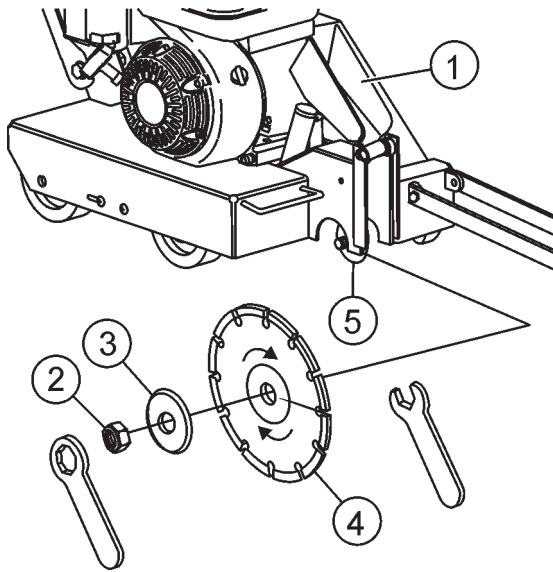

Figure 12. Diamond Blade Placement
Refer to Figure 12 for the following components.
5. Lift up the blade guard cover (item 1 Figure 12) to gain access to the diamond blade.
6. Use the provided blade nut and blade shaft locking wrenches (Figure 12) to install the diamond blade.